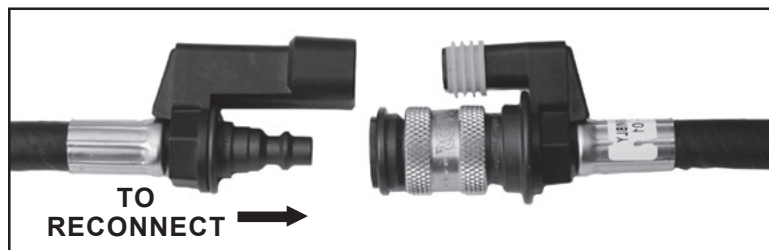

FIGURE 12B
2. To reconnect, align the HEADS-UP DISPLAY plug with the mating connector (See FIGURE 12B) and push plug "D" into socket until the locking sleeve "E" pops forward. Test for proper engagement by tugging on the coupling.